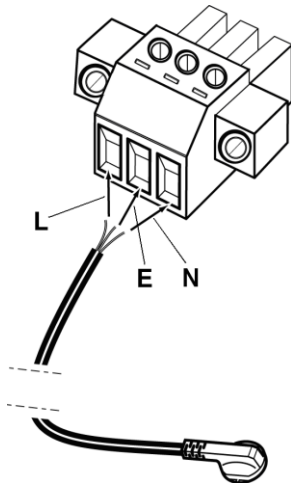

Figure 27 Schematic Diagram of the DCS or the NRI Main Power Supply Cable Connection
1. Strip off the wire jacket of one end of the AC power supply cable by 20mm and connect the cable to the main power supply wiring terminal, as shown in Figure 27.
1. Strip off the wire jacket of one end of the prepared standby power supply cable by 20mm and connect the cable to the standby power supply wiring terminal, as shown in Figure 27. The installation procedure is similar to that of installing the main power supply cable.